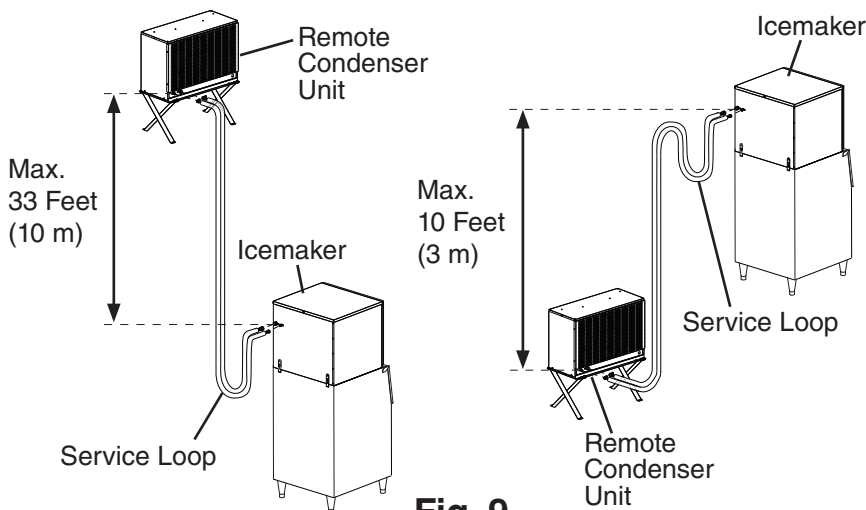

Fig. 9
- The maximum vertical distance between the remote condenser unit and the icemaker is 33 feet (10 m) above or 10 feet (3 m) below the icemaker. These distances are measured fitting to fitting. See Fig. 9.